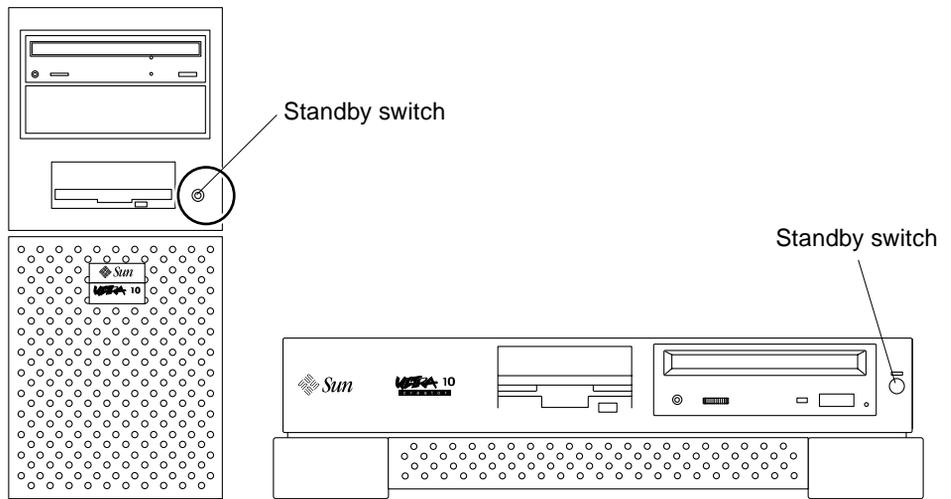
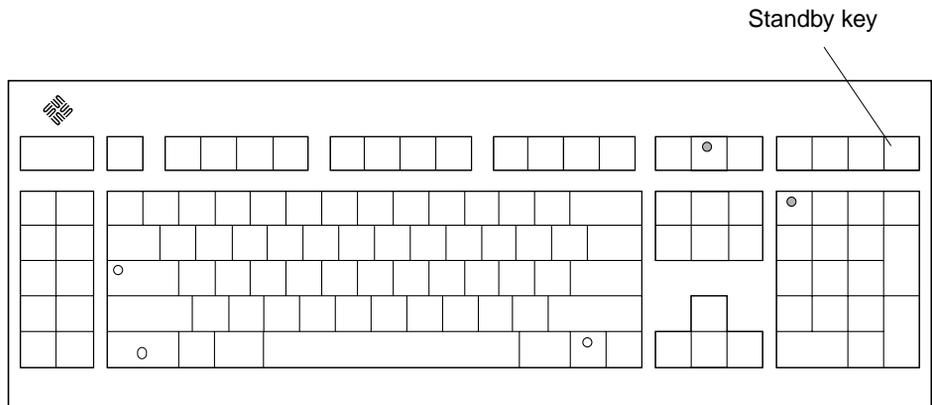

FIGURE 6-2 System Unit Standby Switch
FIGURE 6-3 Sun Type-5 Keyboard
5. Press the standby switch (FIGURE 6-2) or press the Sun Type-5 keyboard standby key (FIGURE 6-3).
2. Press the system unit standby switch (FIGURE 6-2) or press the Sun Type-5 keyboard standby key (FIGURE 6-3).